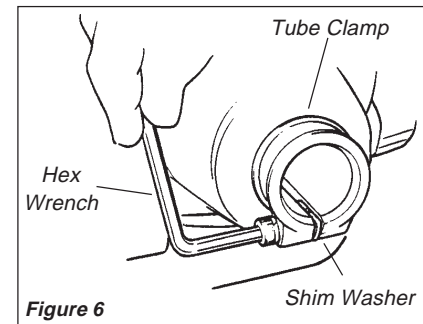

Figure 6
2. Use the 4 mm hex wrench to loosen the tube clamp screw. Verify that the D-shaped shim washer is positioned as shown. See Figure 6.